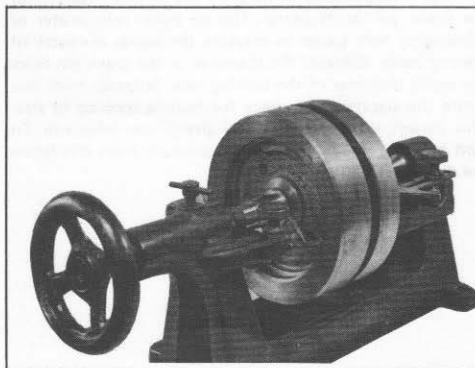

Figure 3-40. Truing Flywheels on Truing Stand
8. When wheels are out of true as indicated in "C," strike the rim of the wheel a firm blow at about 90 degrees from crank pin on high side (see figure 3-40).